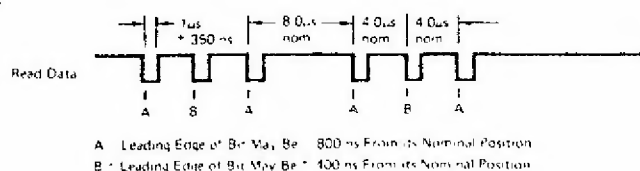

Figure 3-3 Read Signal Timing
3.3.4 Read data. This output represents digitized data as detected by the drive electronics. Information transmitted will be in the encoding scheme used. Pulse width of both clock and data bits will be 1 μ sec \pm 350 nsec. Maximum bit shift for a clock is \pm 800 nsec while that for data is \pm 400 nsec from their nominal bit positions (see Figure 3-3). The leading edge of each Read Data pulse represents the true position of the flux transition on the recording media.